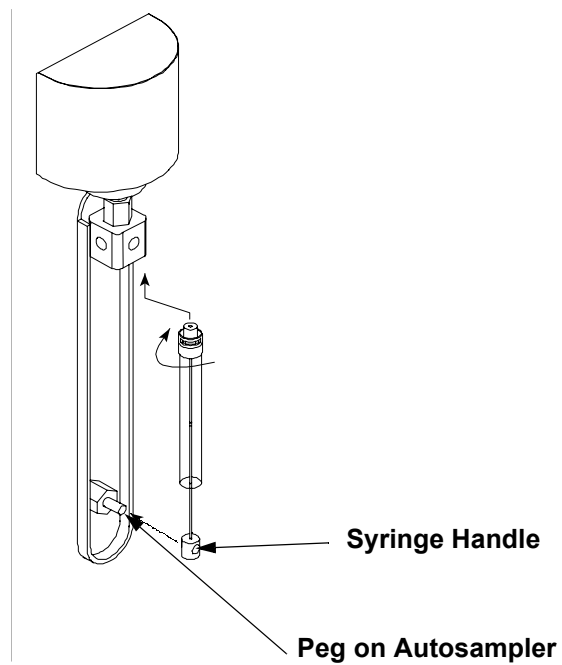

Figure 3-2. Installation of the syringe
5. Pull the bottom of the syringe towards you. You can now remove the syringe (see Figure 3-2).